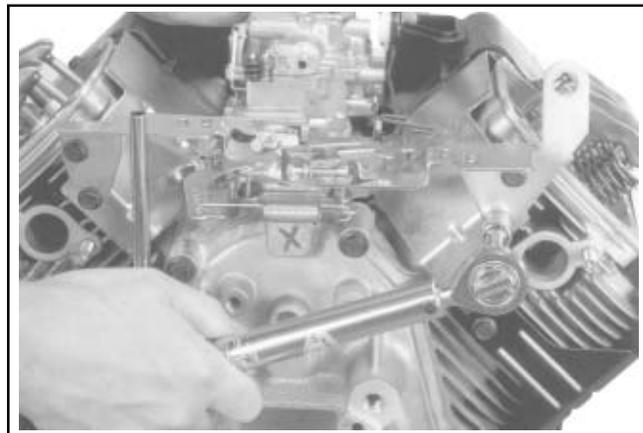

Figure 11-81. Torquing Main Control Bracket.
2. Mount the main control bracket, and air cleaner support bracket (if used) to the cylinder heads using the four hex. flange screws. Torque the screws to **10.7 N·m (95 in. lb.)** into new holes, or **7.3 N·m (65 in. lb.)** into used holes. See Figure 11-81.